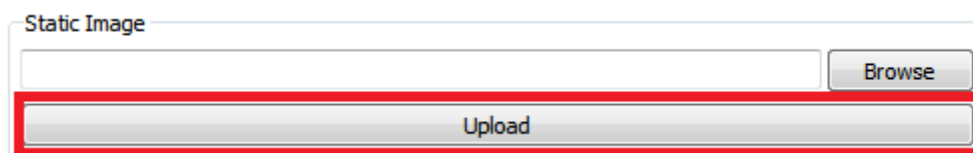

Figure 2-50. DLP LightCrafter GUI Static Image Upload Button
3. To display a 608 × 684 pixel 24-bit RGB image, click the Browse button to select the BMP file and then click the Upload button. See Figure 2-50.